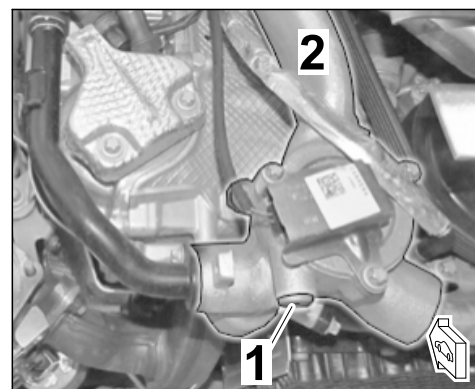

Figure 7
- 1.8.2 Remove drain plug on thermostat housing and collect coolant (⇒ *Figure 7*).